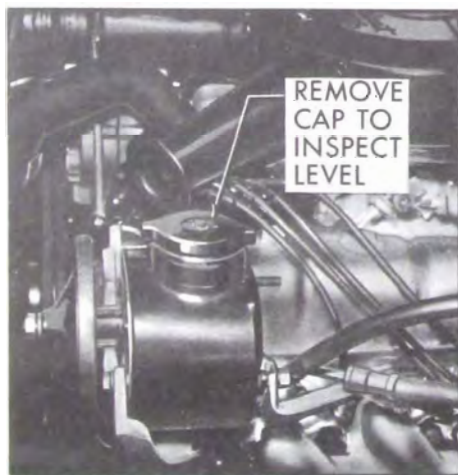

Figure 1-9—Power Steering Gear Reservoir
**4. Power Steering Gear.** Thoroughly clean dirt from reservoir cap on top of oil pump, then remove cap. With system warmed up, maintain level with GM power steering gear fluid Part #5723684 or equivalent. See Figure 1-9.